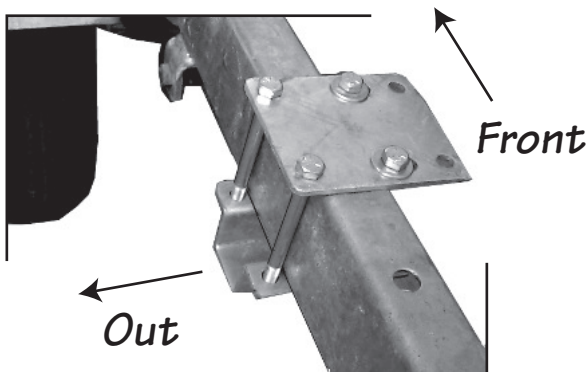

Figure 1
1. Before assembling the mounting hardware as shown in figure 1, decide where you will want the guides placed on your trailer.
2. Using 4 - 3/8"x5" carriage bolts, 8 flat washers and 4 nyloc nuts, for each, attach the guide support mounts onto your trailer frame, as shown in figure 1. Use the holes that will keep the bolts closest to the frame tube. Finger tighten at this time. Repeat for other side.